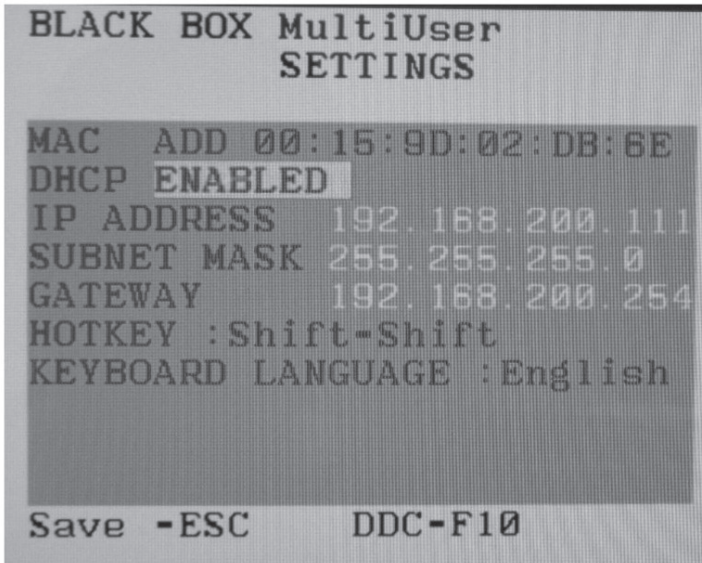

Figure 5-2. Settings window.
2. Press F2. The Settings window appears. See Figure 5-2.